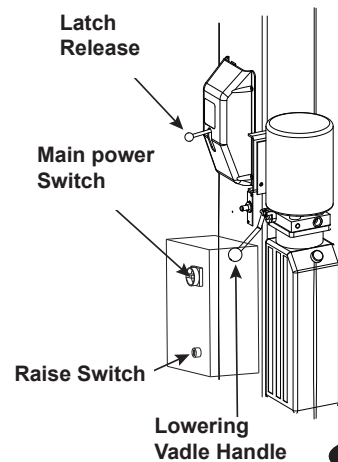

Fig . 3
- A. For all lifts. Push Raise switch on power unit, Fig. 3.
- D. Push lowering valve handle to lower, Fig. 3.